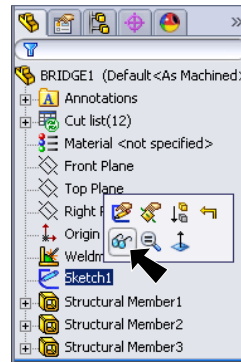

Fig. 30
Step 1. Click **Zoom to Fit**  (F) on the View toolbar.
Step 2. Click **Sketch1** in the Feature Manager and click **Hide**  on the Content menu, **Fig. 30**.